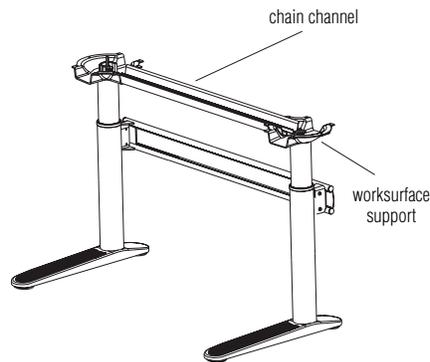

Figure 2
4. Slide the chain channel into the opening in each work surface support (Figure 2).